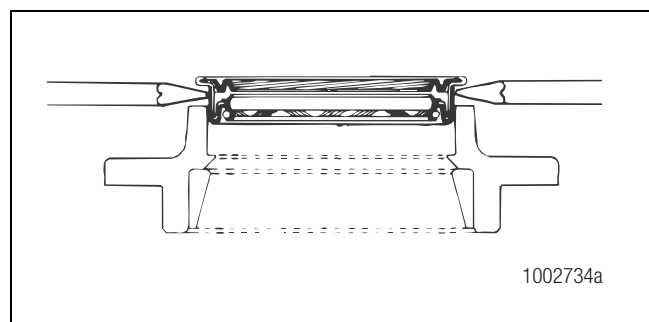

Figure 3.30
2. Pry under the oil seal flange to remove the oil seal from the input bearing cage. Discard the oil seal. Figure 3.30.